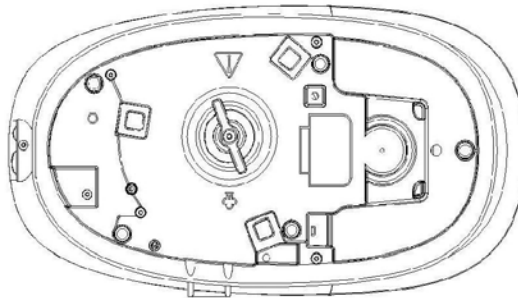

Fig. 1
Open the cap for cleaning the steam generator (see Fig. 1).
3. To remove the mineral deposits collecting at inner steam generator, firstly put the iron horizontally on a level surface, then tilt the steam generator and open the drain water cap on the bottom by it rotating manually(see Fig. 1).